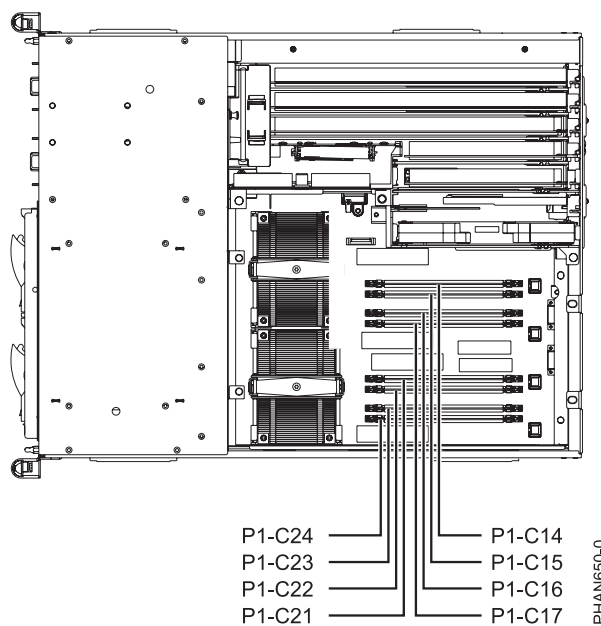

Figure 16. Memory module slot locations
9. Determine the slots in which the memory modules will be placed. Four-core processor systems use all eight memory module slots. One- and two-core processor systems use only slots P1-C14 through P1-C17. See Figure 16 on page 27 for memory module slot locations in the system. The memory modules should be plugged into the slots as shown in the following tables: